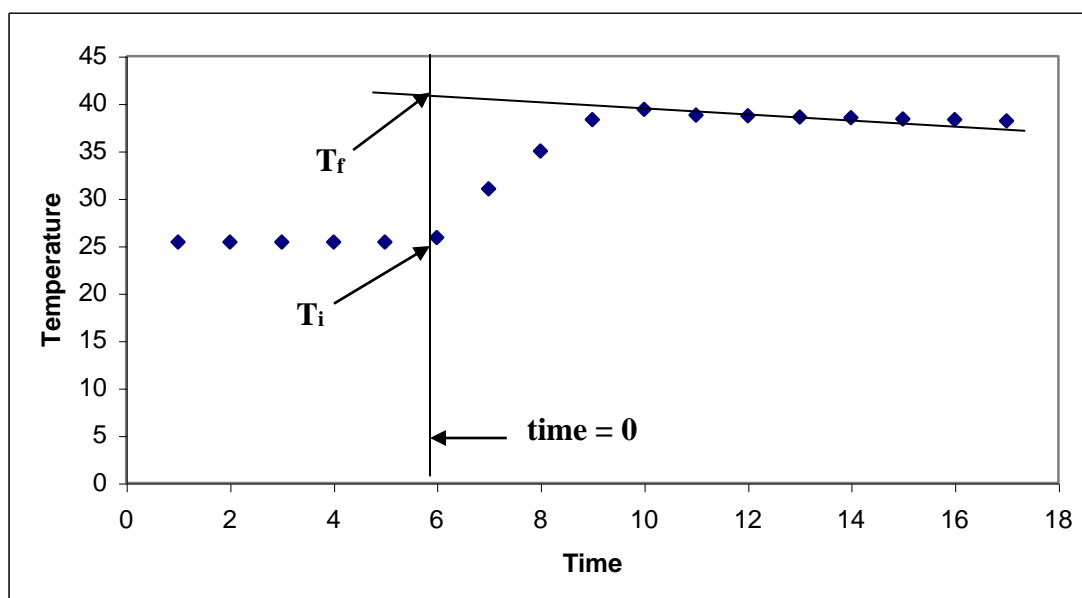

Figure 1. Temperature Extrapolation.
You will use the temperature probe to measure the temperature as a function of time. You will also be using Logger Pro on the computer to generate the graph and analyze your data. Your graph should look like the one shown in **Figure 1**. Notice the temperature vs. time plot is irregular until it stabilizes on a slowly decreasing temperature line. Ideally, you want the maximum temperature that would be produced if the reaction happened instantaneously at the time of mixing (time = 0), not some time later when the reaction mixture and the calorimeter have cooled slightly due to leaks in our "adiabatic" system. The proper method to obtain ΔT is depicted in **Figure 1**.
12. Drag the cursor over the linear portion of the graph that occurs after the solutions have been mixed (see Figure 1). Choose: Analyze; Linear Fit. A line should appear as well as a box containing the equation for the line. If necessary, the box can be dragged so that it does not cover up the graph.
13. Move the cursor crosshair along the line until the x coordinate (lower left of screen) is the time of mixing (time = 0 ; Figure 1). The y value at this point is T_f . Record the value in the report sheet.